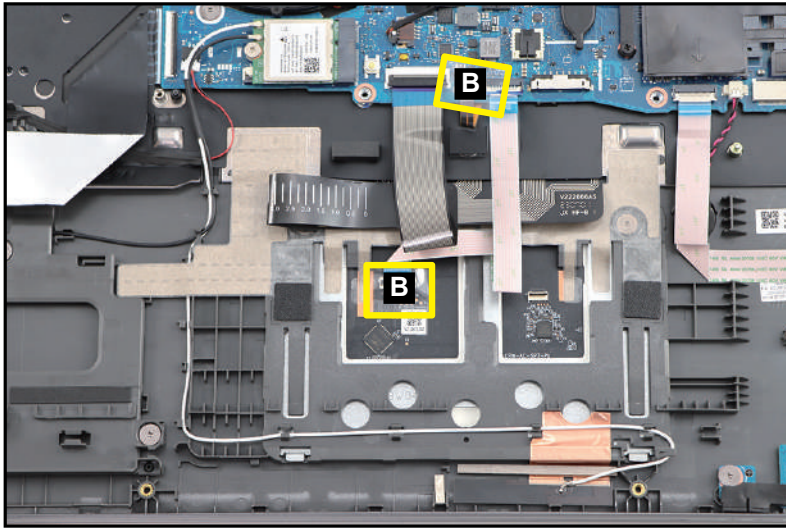

Figure 3-48. Touchpad Module Removal
3. Detach the mylars (B) securing the touchpad FFC and keyboard backlight FPC connections as shown in Figure 3-48.